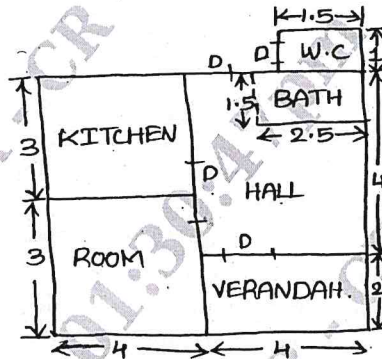

Fig.Q2(b)
- b. The Fig.Q2(b) shows the plan of a LIG Govt. quarter. Draw the single line diagram for lighting and heating circuits on the sketch. Calculate total load; length and size of the wire by taking safety factor equals to two (14 Marks)